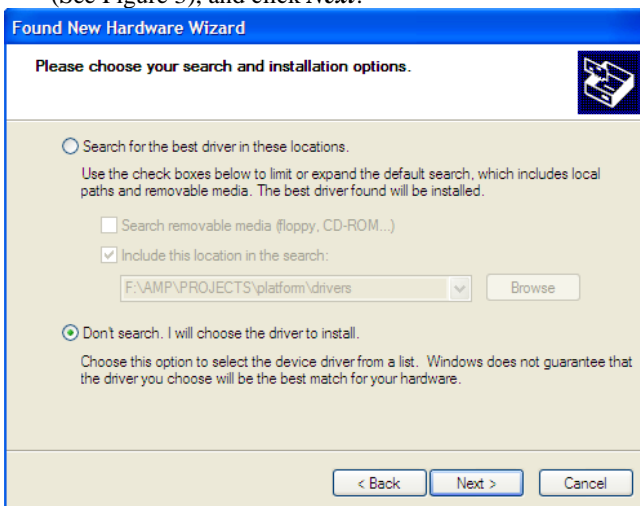

Figure 3. Search and Installation Options
4. Select *Don't search. I will choose the driver to install* (See Figure 3), and click *Next*.